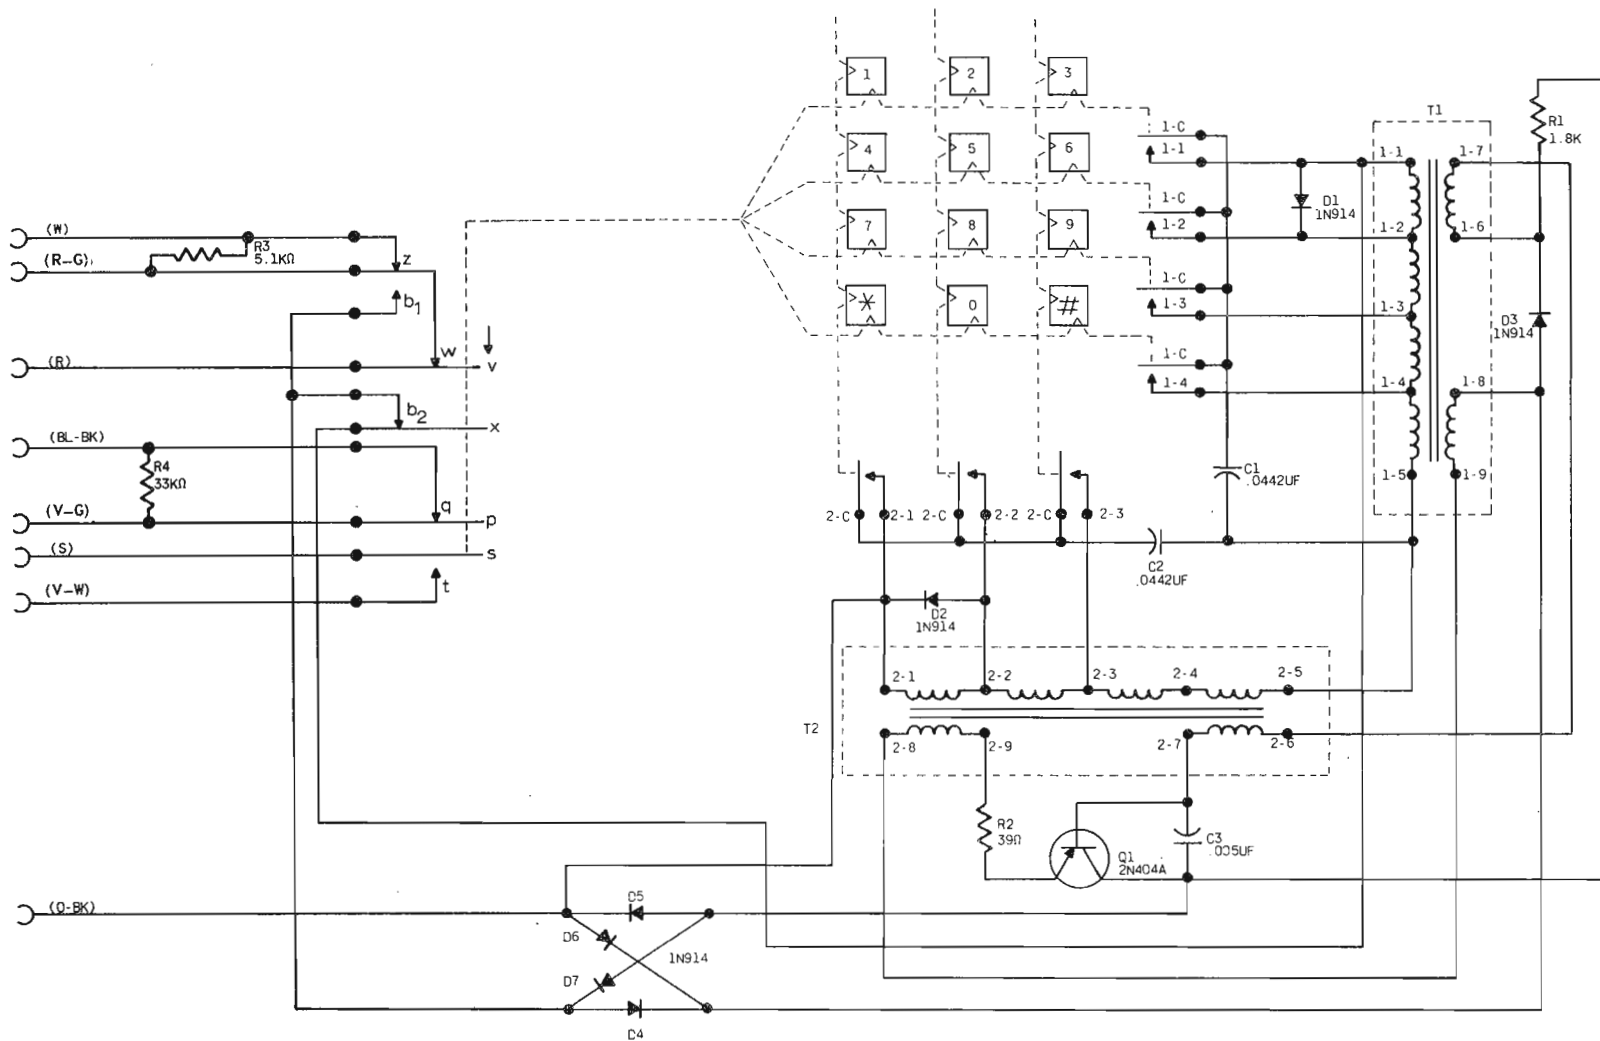

Fig. 14 - NE-35Q3C1 Dial Schematic
- Fig. 14 – NE-35Q3C1 Dial Schematic